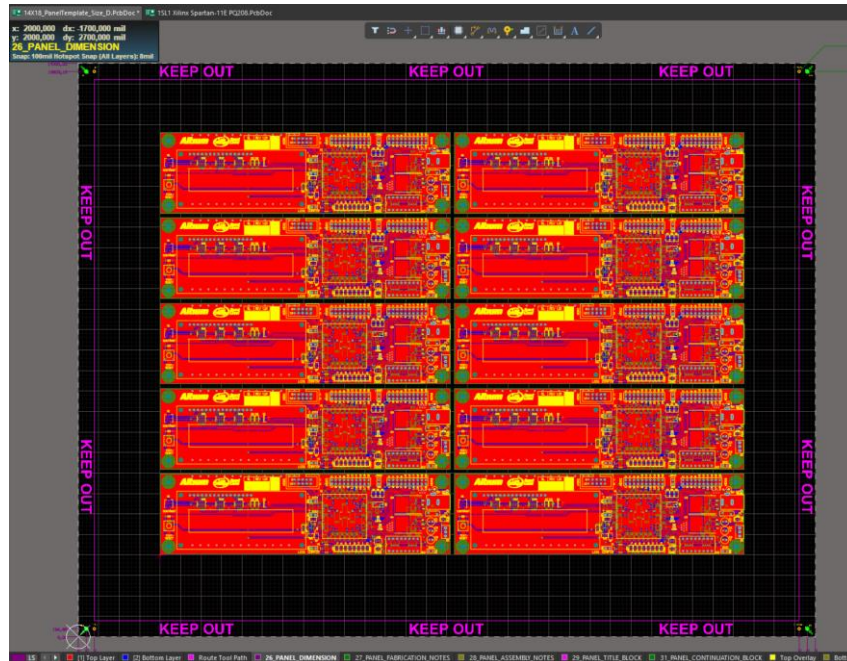

Figure 4. Placed Embedded Board Array
14. Select the **Pause** icon  to resume placement and place the Embedded Board Array at the Location x:2000 y:2000 mil, as shown in Figure 4.
15. Once the Embedded Board Array has been placed, press **Escape or right-click** to exit the placement mode. Your display should look like Figure 4.